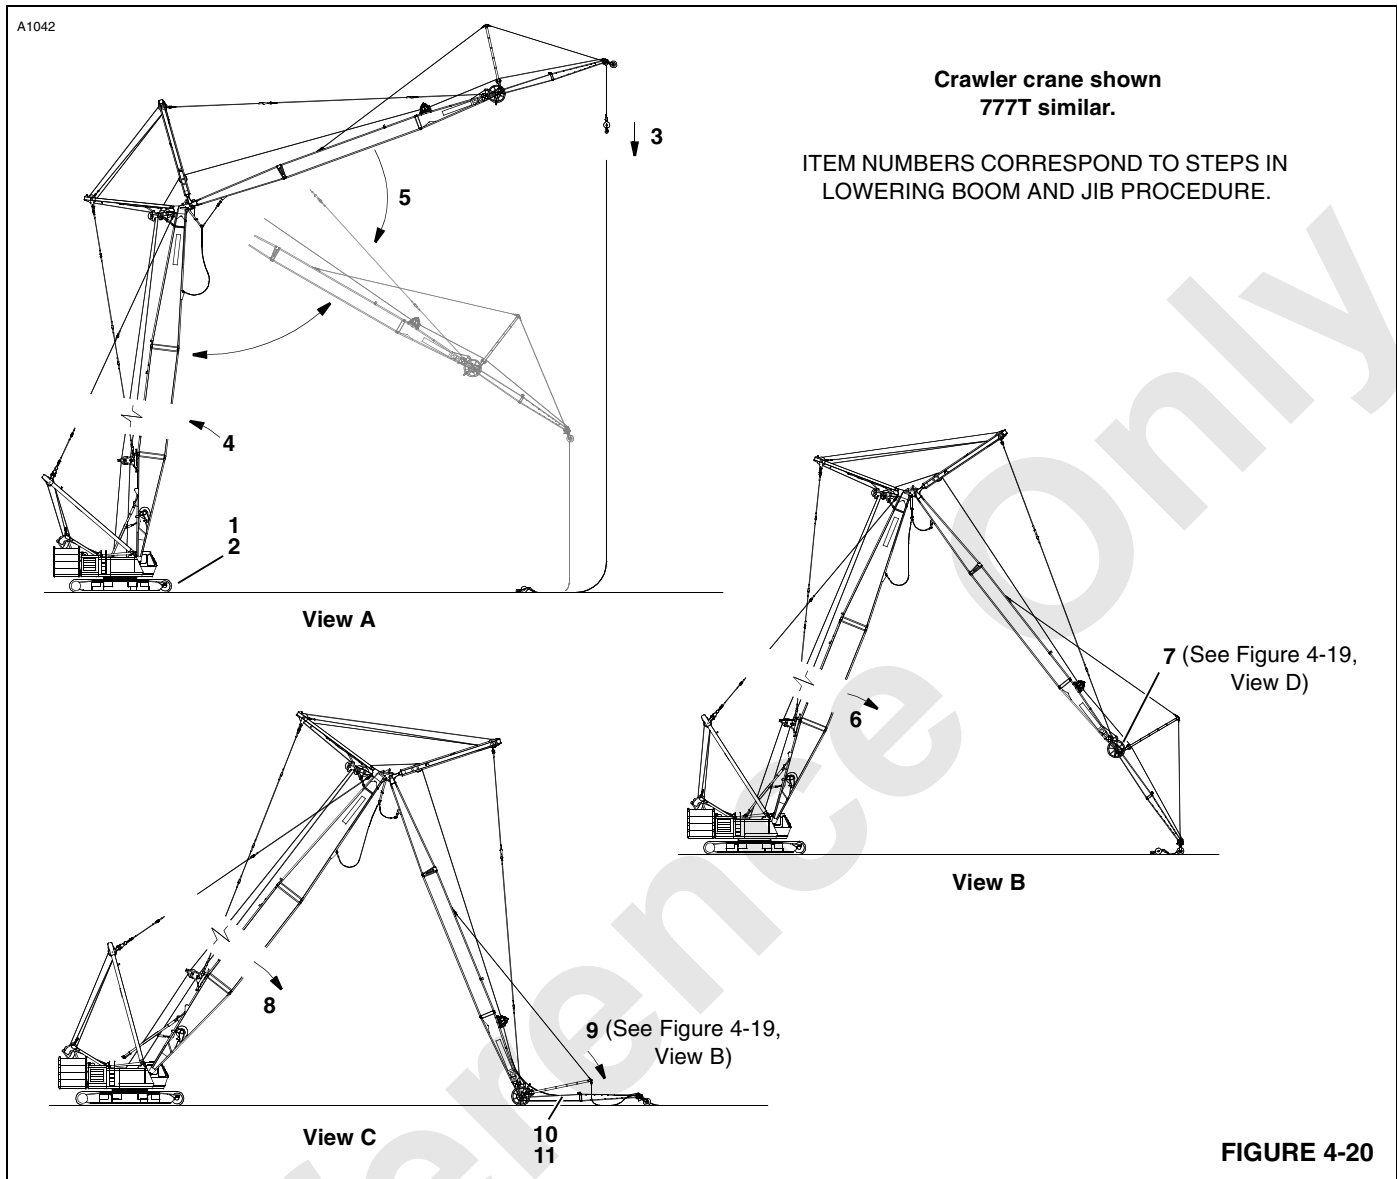

FIGURE 4-20
NOTE: Item numbers in Figure 4-20 correspond to numbered steps in following procedure.
5. Position jib at required boom to luffing jib angle as shown in Figure 4-20, View A (see Luffing Jib Raising Procedure Chart for angle).
6. Slowly lower boom until fixed jib point wheel just lightly contacts ground as shown in Figure 4-20, View B.
8. Continue to lower boom slowly — **do not lower luffing jib** — until luffing jib rollers contact ground as shown in Figure 4-20, View C.